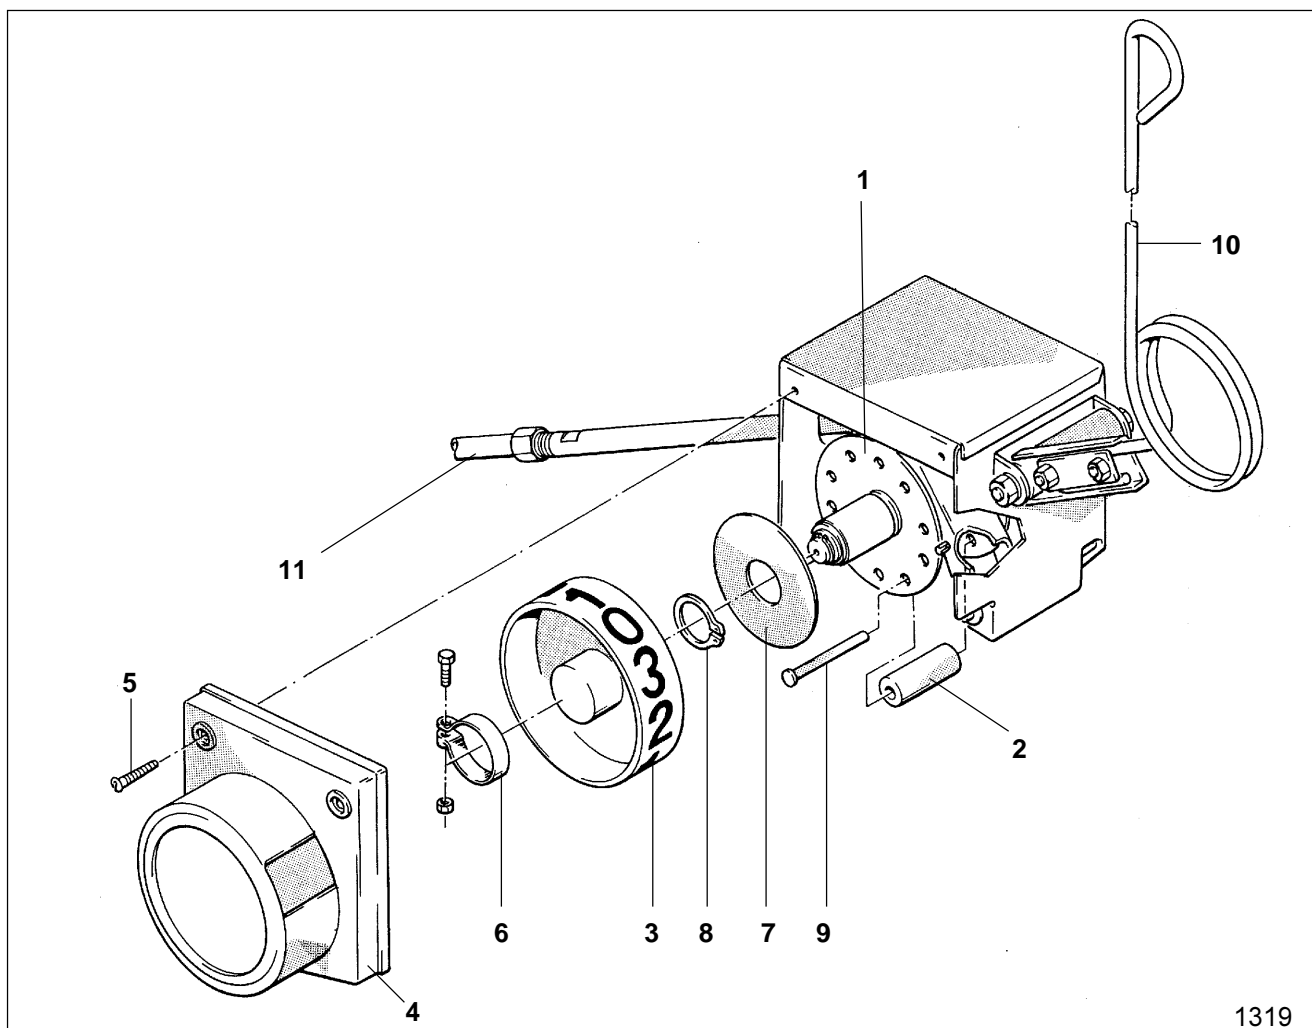

Fig. 18.32
The spacing of the tramlines (see table above) corresponds to the working width of the fertiliser broadcaster or of the field sprayer. The rhythm for creating tramlines is determined by the ratchet wheel drum located inside the switch box (Fig. 18.32). If it is required to create tramlines with another rhythm, the ratchet drive wheel drum (Fig. 18.32/1) in the switch box has to be exchanged or converted.
For the 2-, 3-, 4- and 6-bout rhythm the ratchet wheel (Fig. 18.32/1) need not be exchanged. For converting the switch box for another bout rhythm sequence within this group, only the shift rollers placed within the ratchet wheel need to be repositioned or shift rollers need to be repositioned in the ratchet wheel drum or added as described in para 18.9.1.
- Remove the protective cover (Fig. 18.32/4) after slackening the two tin screws (Fig. 18.32/5).
- Remove the clamp (Fig. 18.32/6) and pull them off together with the counter wheel (Fig. 18.32/3)
- Take off the securing disc (Fig. 18.32/7) after having removed the circlip (Fig. 18.32/8).
- Now the shift rollers are freely accessible (Fig. 18.32/2) and may be inserted into the ratchet wheel drum as shown in para. 18.9.2 after having pulled out the pins already in place (Fig. 18.32/9).